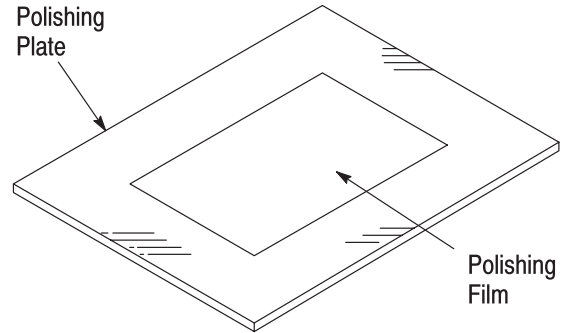

Figure 8
2. Place a sheet of 15- μ m polishing film on the polishing plate. See Figure 8.